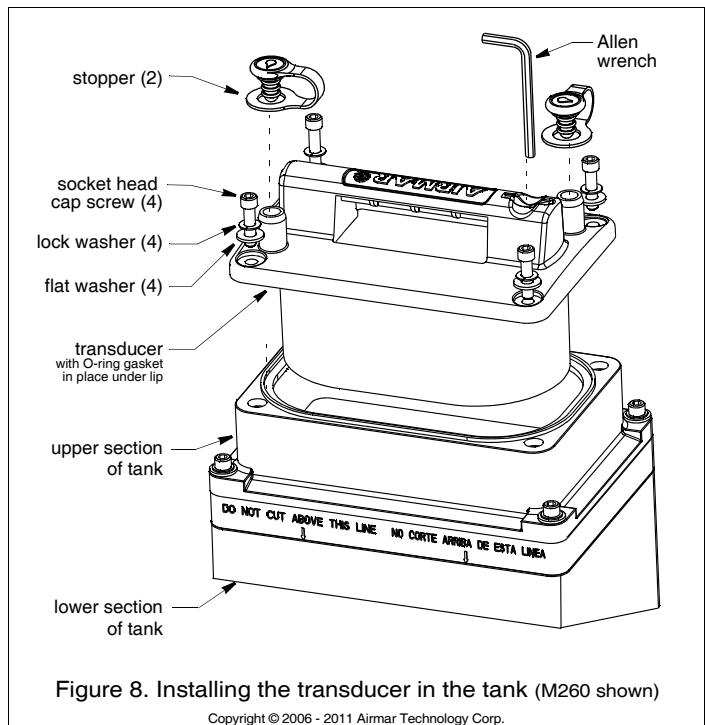

Figure 8. Installing the transducer in the tank (M260 shown)
4. Grasp the transducer by the handle and lower it into the tank (Figure 8). There is no fore or aft to the transducer; it fits either way.